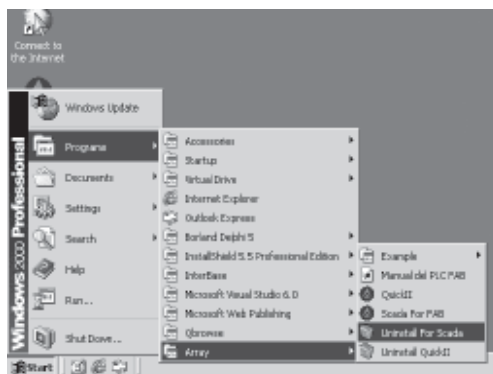
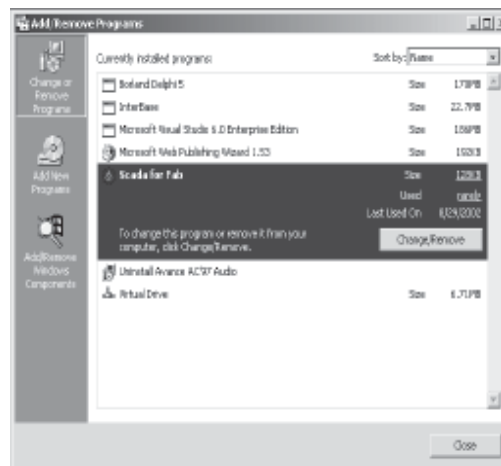

Fig. 2-8 Installation System 1
Fig. 2-9 Installation System 2
Step7. Uninstall the system. This task needs to be run when the system is not needed or the system does not work normally. (Certainly, data need to be backedup before the uninstallation. As to backup, we will explain further in the following chapters). Click ;°Setup;±|;°Control Panel;±in Fig.2-8, and then click ;°Installation;±| selete to enter the interface in Fig. 2-9. Select;°SCADA for FAB;±Setup while installation) in the Listing Frame and then click ;°Add/Delete;±.